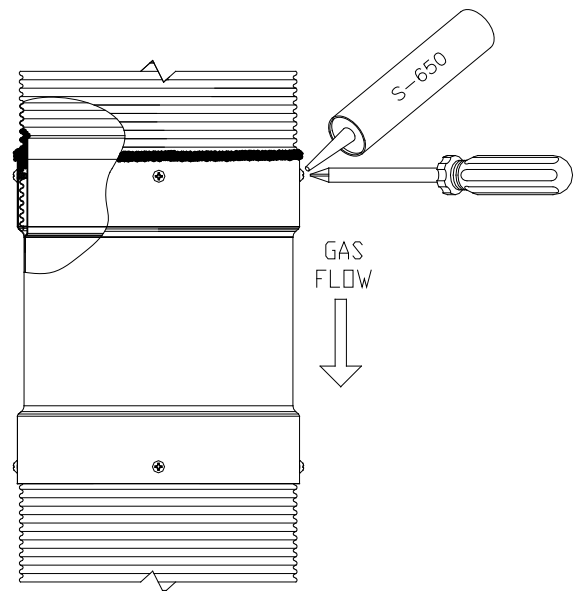

Figure 24 - DuraSeal Flex screws
3.5. Add the red S-650 caulking over the screws (Figure 24).